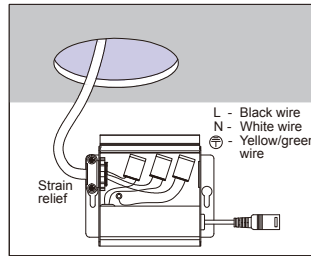

FIG. 3
4. Insert the power supply wire through the knockout and fasten with a strain relief (not included) (Fig. 3).